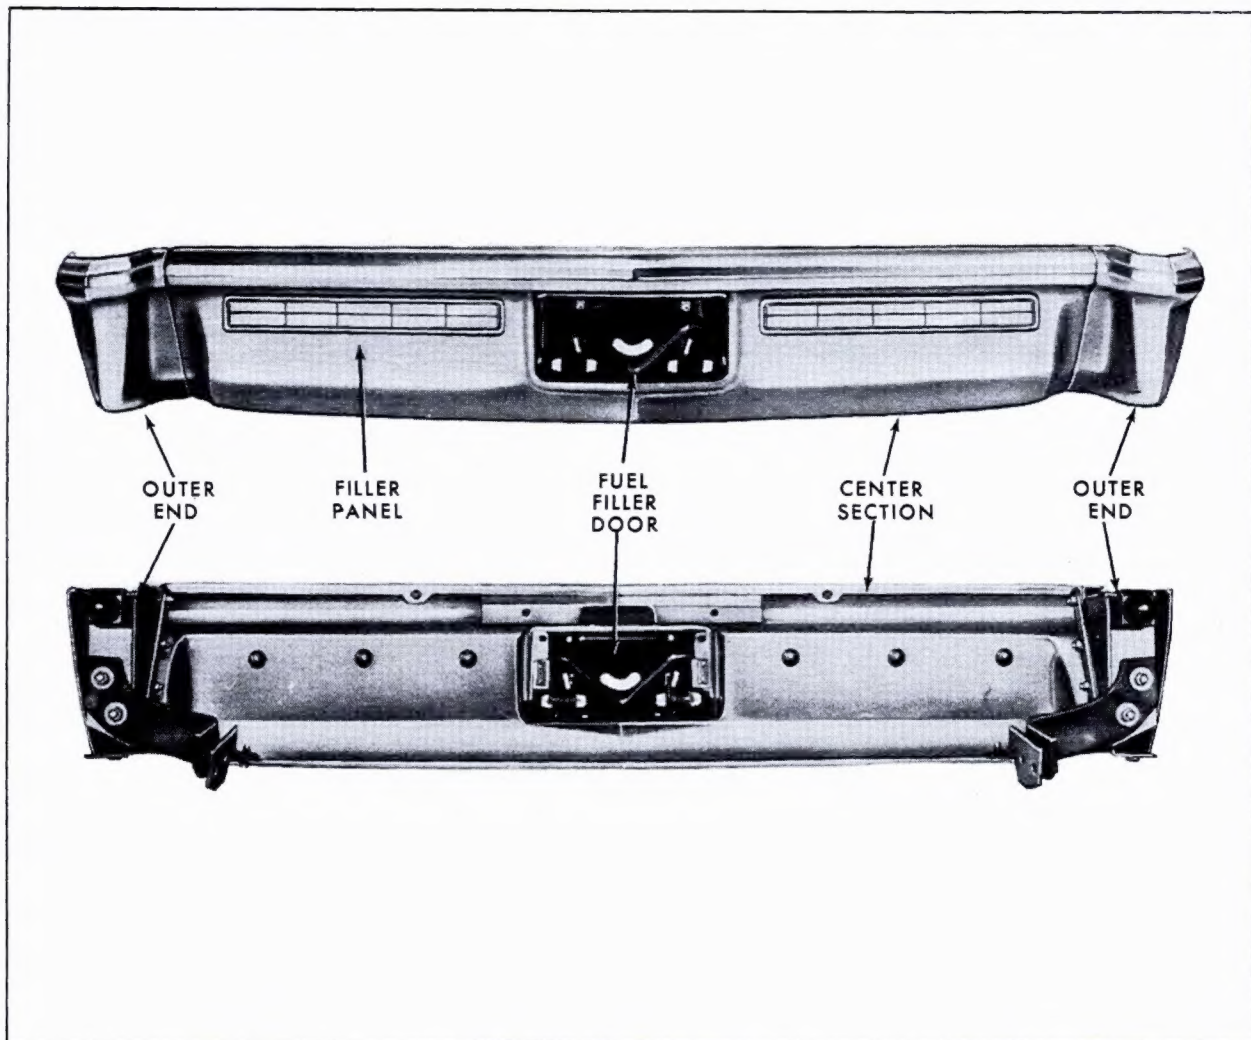

Fig. 14-3 Rear Bumper - Front and Rear View
The rear bumper assembly, Fig. 14-3, consists of the following sections that are bolted together: a one-piece center section with license guard; fuel filler door, which also serves as license holder; and wrap-around outer ends.
### **a. Removal (Fig. 14-3)**
### **b. Installation (Fig. 14-3)**
3. An overall alignment of rear bumper assembly is obtained by using any one or all of the following adjustment combinations (Fig. 14-3 and 14-4).